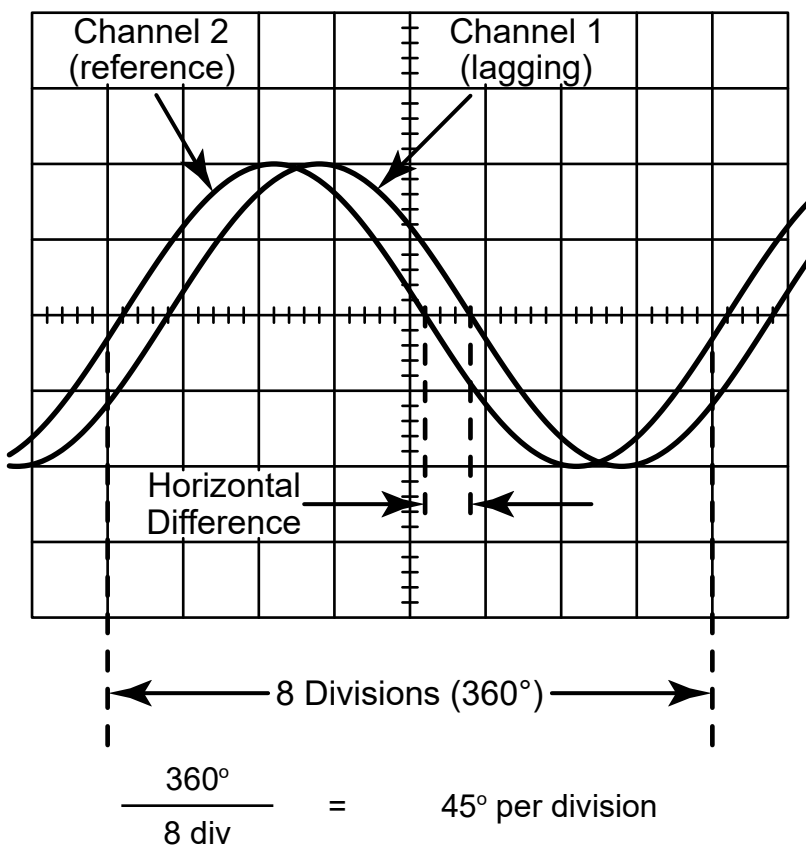

Fig. 4. Measuring phase difference.
Since a complete cycle of a sinusoidal waveform represents 360°, the oscilloscope graticule can be calibrated in degrees/division by using the SEC/DIV switch and the HORIZ MAG. Adjust the span of a reference waveform so that one cycle covers a given number of divisions. (Figure 4 illustrates how the graticule can be calibrated for 45° per division). The phase difference of a signal from the reference equals the displacement from the calibrated points on the graticule.
- d. Turn the HORIZ MAG control until one cycle of the reference signal {CH 2) occupies exactly 8 divisions horizontally. (See Fig. 4.) Each division now represents  $45^\circ$  of the displayed  $360^\circ$  (eight divisions).